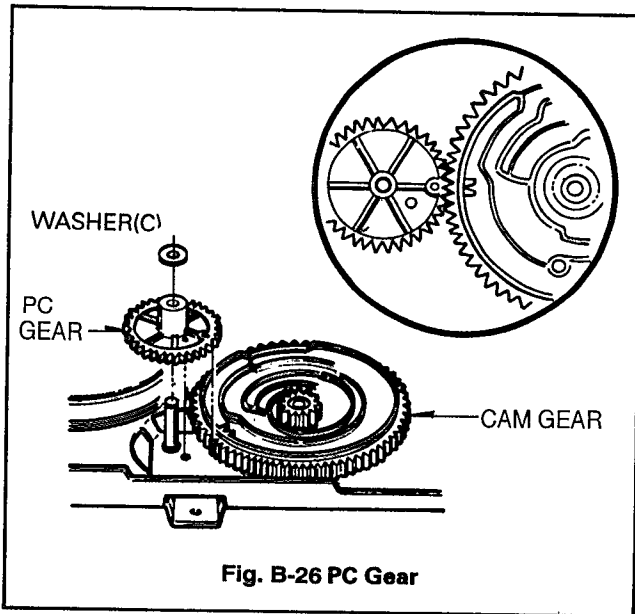

Fig. B-26 PC Gear
- ① Align the Projection of Rack Gear T with the hole of Loading Gear.
- ② Drive the Rack Gear F.L in the direction of arrow(D).
- ③ Hole of Cam should be aligned with the hole of chassis, and the groove(■) of Cam Gear should be aligned with the hole of PC Gear (Fig. B-26).
## 26. PC Gear (Fig. B-26)
- ① The Groove of PC Gear should be aligned with the groove(V) of Cam Gear, and another hole of it should be aligned with the hole of chassis (Fig. B-26).